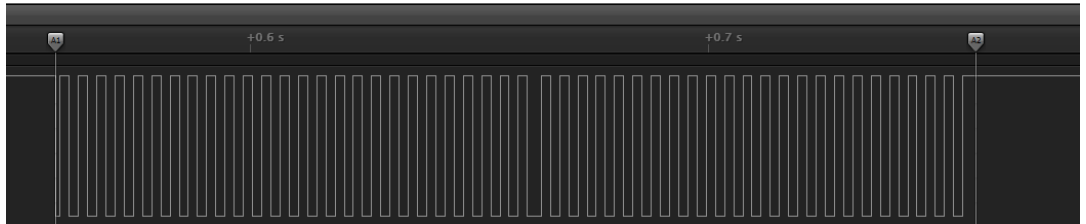

Figure 6: Digital pin toggling measured on PD0.
The *sleep*(1) routine is added in the loop to delay the PC loop of 1 msec. The toggling of the GPIO is in fact limited by the USB refresh rate, which occurs at about 1 msec.. The max. total toggling rate is measured to be 250 Hz, see figure 6. It is observed that some slips of  $\pm 1$  msec happens with a rate of 2% of the toggling count. For values of sleeps lower than 1 msec., the toggling is not more reliable and toggling loss may occurs.